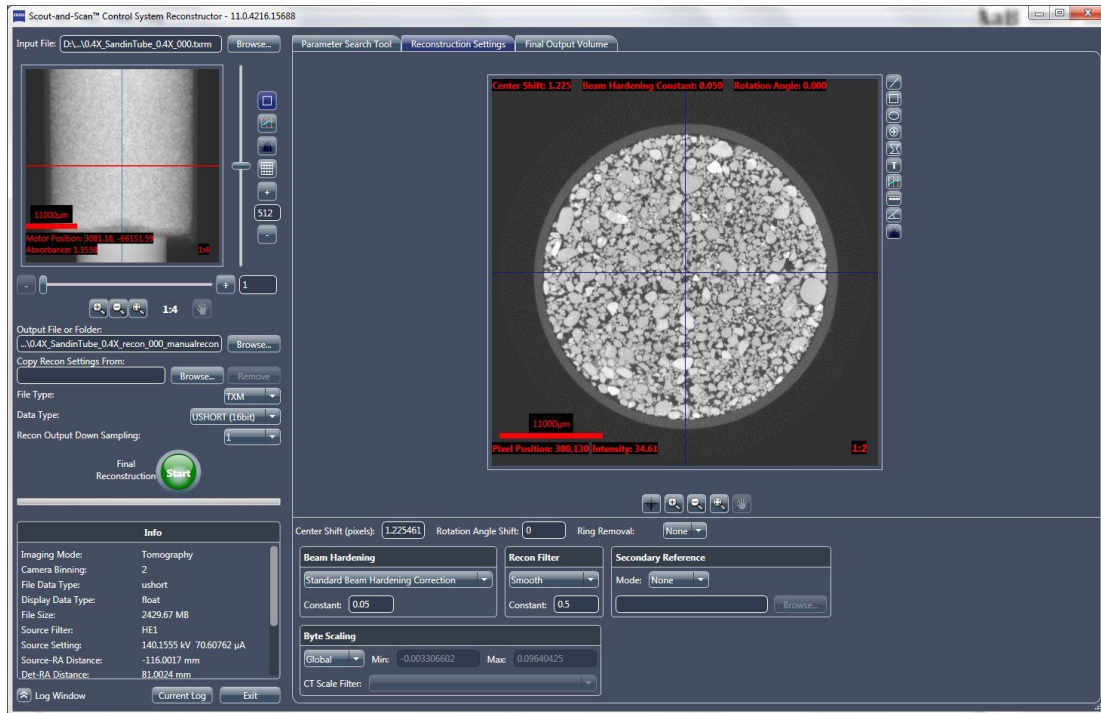

Figure 17: Manual reconstruction of the 1st tomography point.
1. Open the "xxx_000.txrm" in the Scout-and-Scan Control System Reconstructor - 11.x. Determine the center shift and beam hardening using the standard protocol. Reconstruct the data allowing for global min/max calculation of the byte scaling. (Figure 17) You may wish to use a new file name such as "xxx_000_manualrecon.txm" or you may choose to write over the auto-reconstructed file.